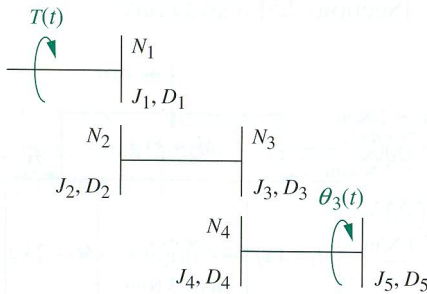

FIGURE P2.18
32. For the rotational mechanical system with gears shown in Figure P2.18, find the transfer function,  $G(s) = \theta_3(s)/T(s)$ . The gears have inertia and bearing friction as shown. [Section: 2.7]